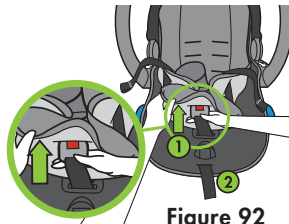

Figure 92
Push Crotch Strap up through opening in Carrier Cover (1) and route Adjuster Strap through front slot in Carrier Cover (2) as shown in **Figure 92**.